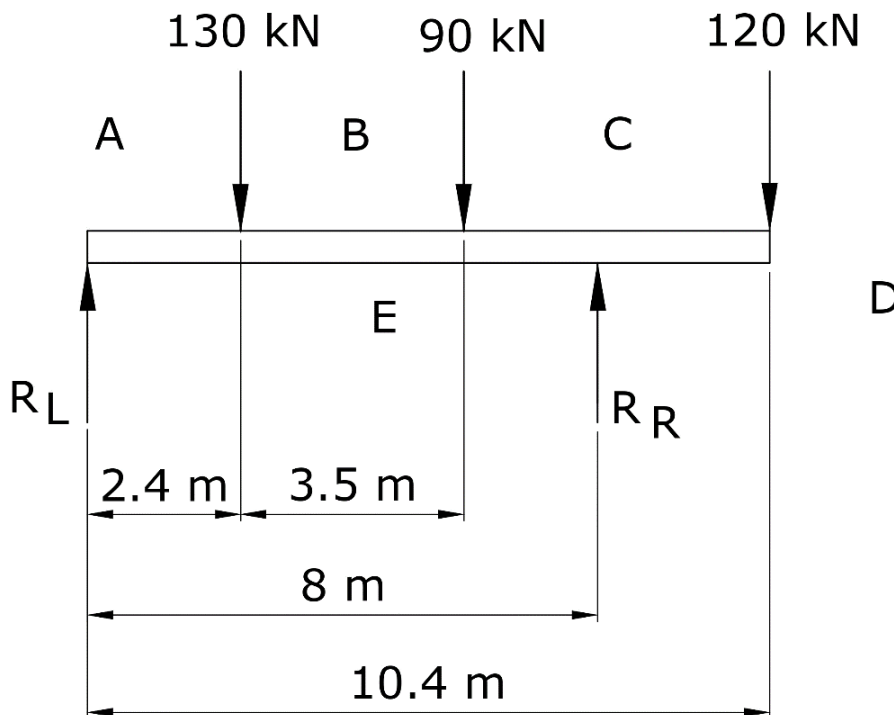

Figure 5b
- a) Copy the space diagram shown in Figure 5b, using the scale indicated and annotate using Bow's notation. (2)
- b) Using a scale of 10 mm representing 20 kN, draw the vector diagram and the polar diagram with the polar distance 100 mm. (3)
- c) Draw the bending moment diagram and determine graphically the values of the left and right supports. State the values. (4)
- d) Construct the shear force diagram. (2)
- i. where the bending moment is zero; (1)
- ii. of the resultant/equilibrant. (1)